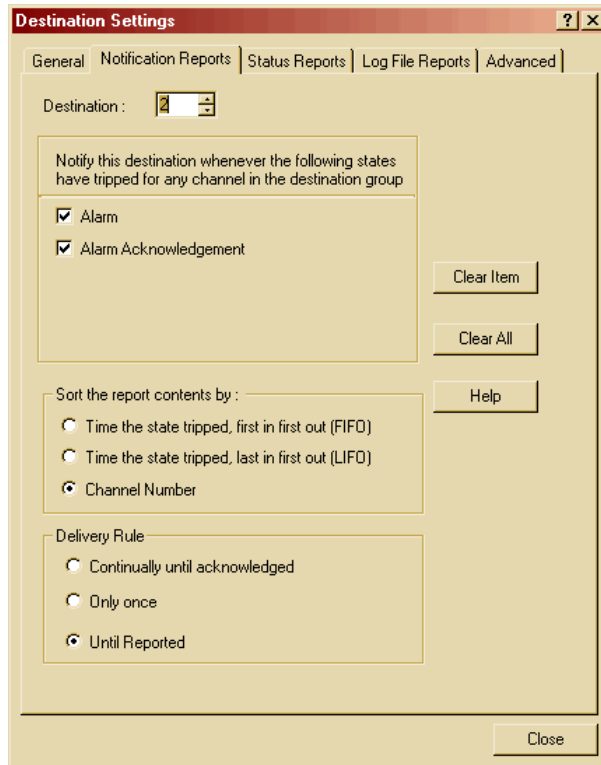

Figure 23: Destination Settings, Notification Reports
21. Select the **Notification Reports** tab for Destination #2 and configure it as shown in Figure 23.